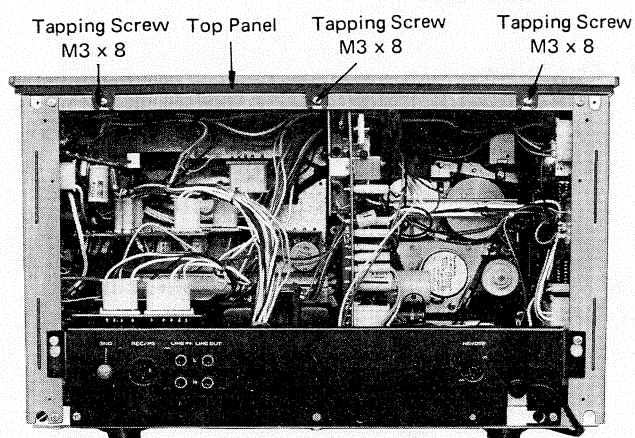

Figure 5. Location of Screws
1. Loosen three screws of the top panel, and remove the top panel. See figure 5.